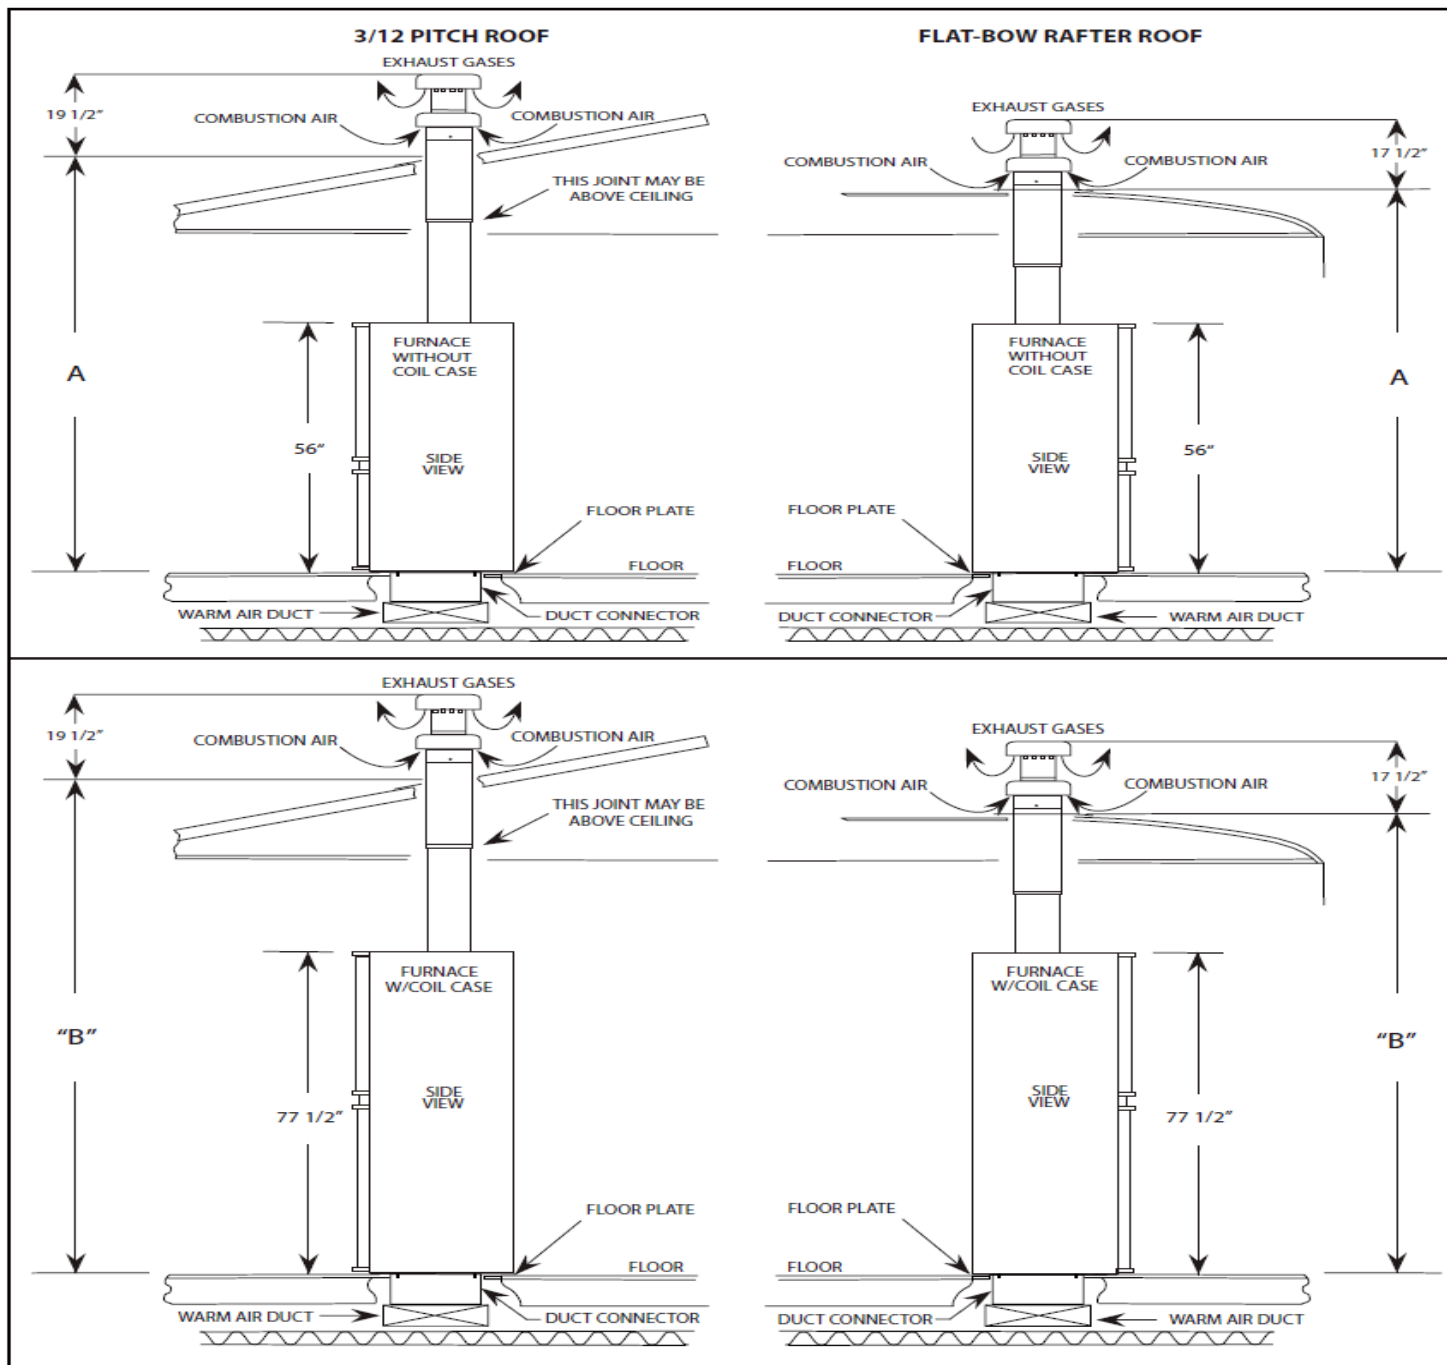

Figure 29: Typical Roof Jack Installation
- 4 Use the 3/32" (2.4 mm) Allen wrench to loosen the set screw by turning it counter clockwise one (1) turn only on the "IN P" port. DO NOT REMOVE THE SET SCREW.
- 5 Connect the 1/8" (3.175 mm) ID flexible tubing to the positive side of the "U" tube monometer or pressure gauge and the other end of the tubing to the port marked "IN P" on the gas valve. As shown in Figure 29.